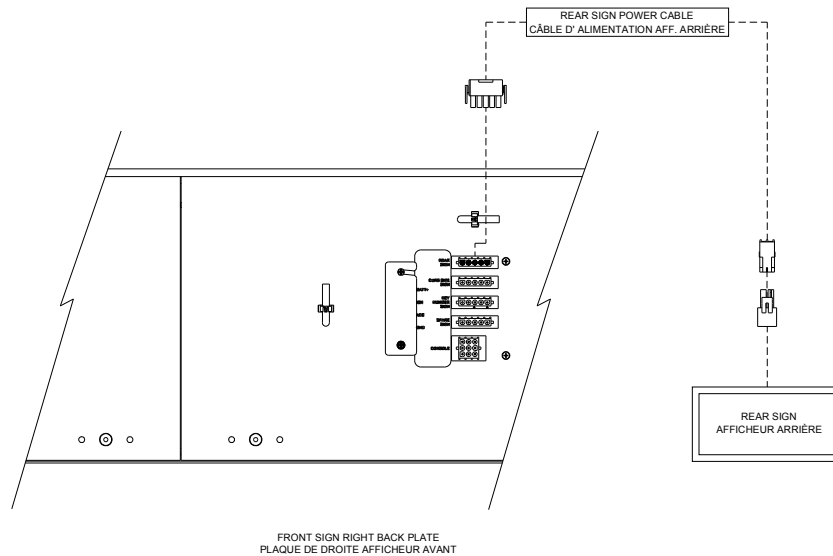

Figure 14: Rear Sign Cable Connection
- Connect the power cable (5-pin connector) to the **REAR SIGN** connector (5-pin connector) located on the Back Plate of the Front Destination Sign (See Figure 14).